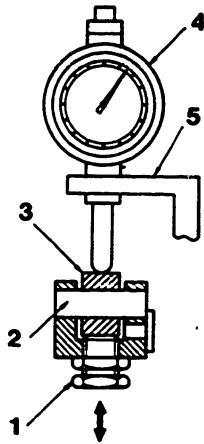

Fig. 62 Measuring clearance between roller and roller pin
1. Measure the clearance between the roller and roller pin by moving the adjusting bolt up and down as shown in Fig. 62. If the clearance exceeds 0.2 mm, replace the roller and roller pin.